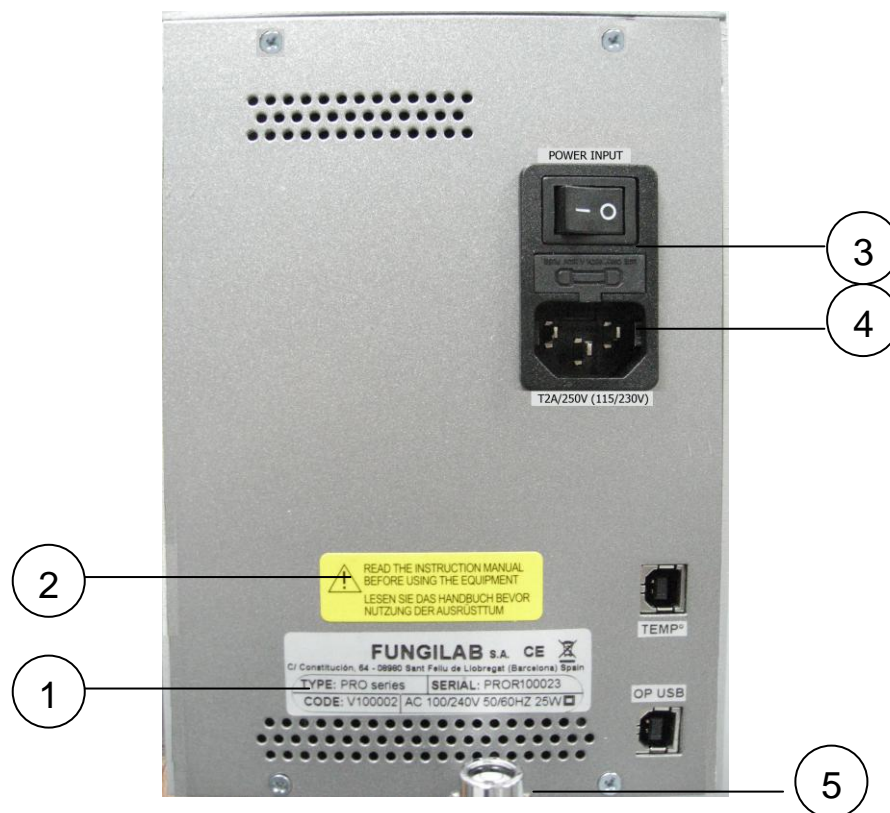

Fig.4 Back view of the equipment
- Plug the power cable into its correct slot located on the back of the equipment (Fig. 4 position 4) and plug it into the power source.
Turn on the switch on the back of the machine (number 3, Fig. 4). If after doing this, the machine does not turn on:
- Verify that the power cable is connected to the equipment (back part, number 4, Fig. 4) and that the power cable is connected to the power.